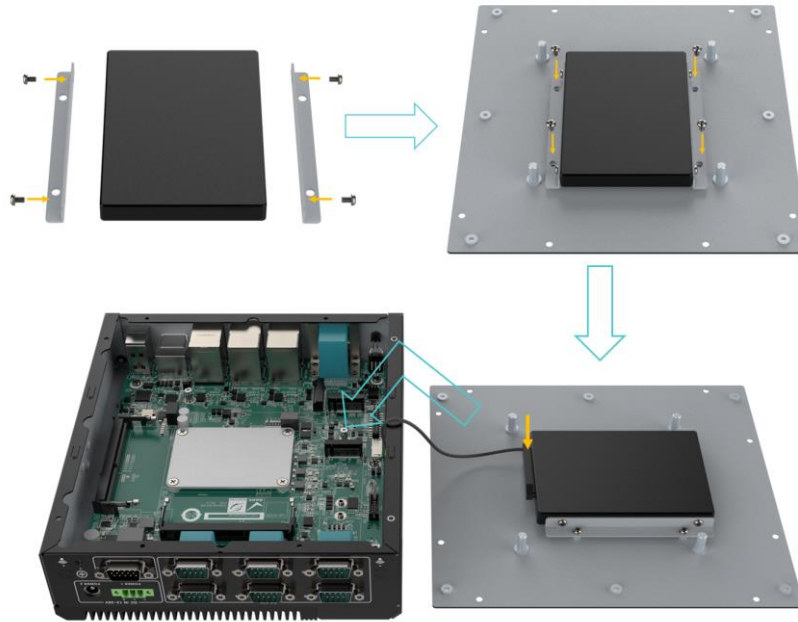

Figure 3-3: Inserting HDD
Step 1: Attach the HDD brackets to the sides of the HDD, and secure the brackets to the HDD by using four retention screws, then connect the HDD cable (**Figure 3-3**).